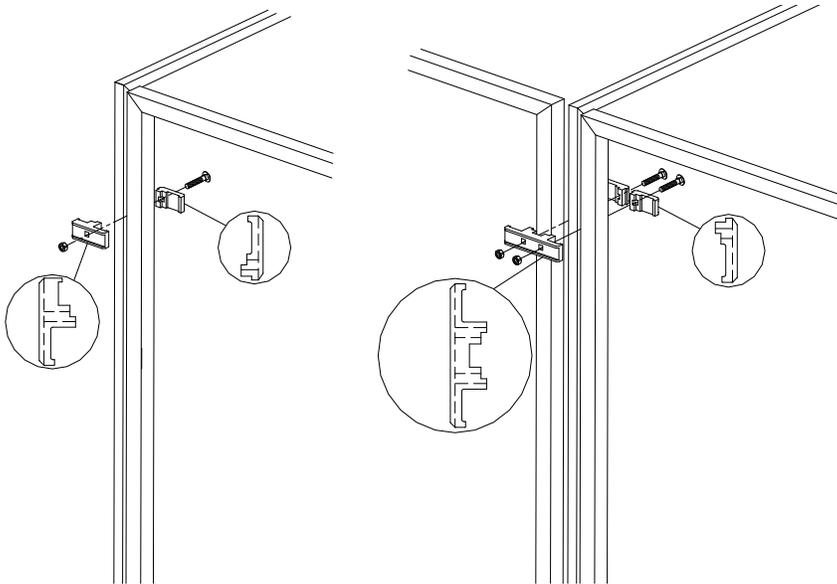
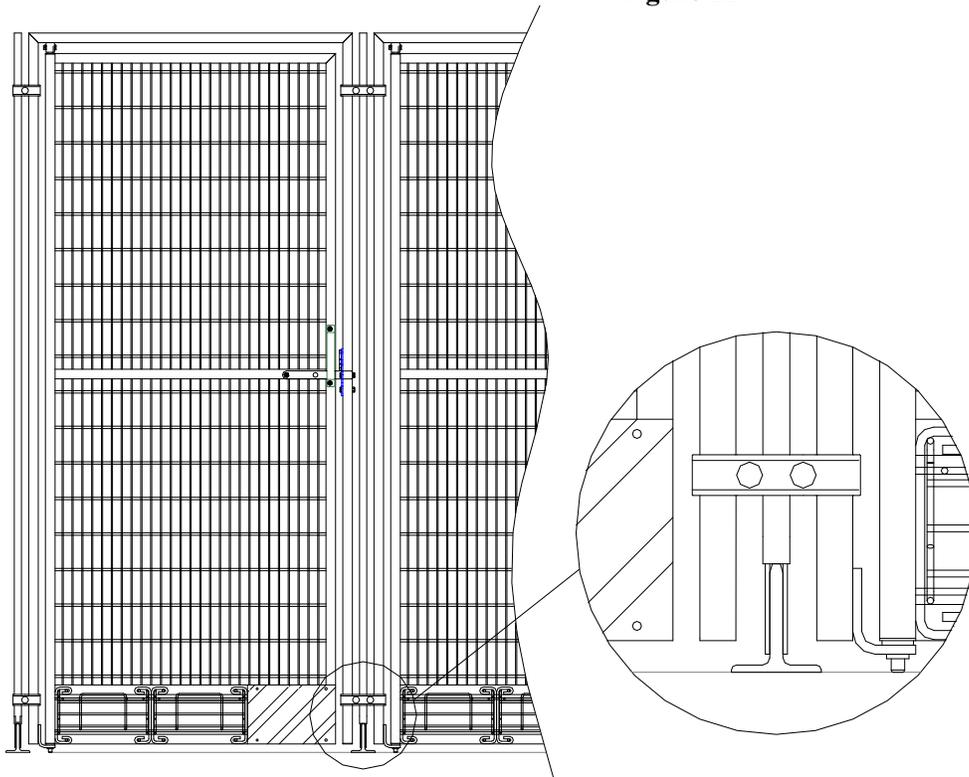

Figure 12
Figure 13
1. Attach the gate / stall front on the front of each run between the division panels with two clamps on each side using the 5/16" x 1-1/2" bolts and nuts provided as shown in Figure 12. Note: It takes two halves to make up one clamp. Attach gates / stall fronts to outside division panels using "square - 1" panel clamps". All other gates / stall fronts will use "square - 1" triple clamps". **To help insure the safety of the animals the round head of the bolt should be assembled toward the inside of the run.** Note: The triple clamps attach two gates / stall fronts together. Therefore you will have to hang two gates / stall fronts at the same time (see Figure 13).